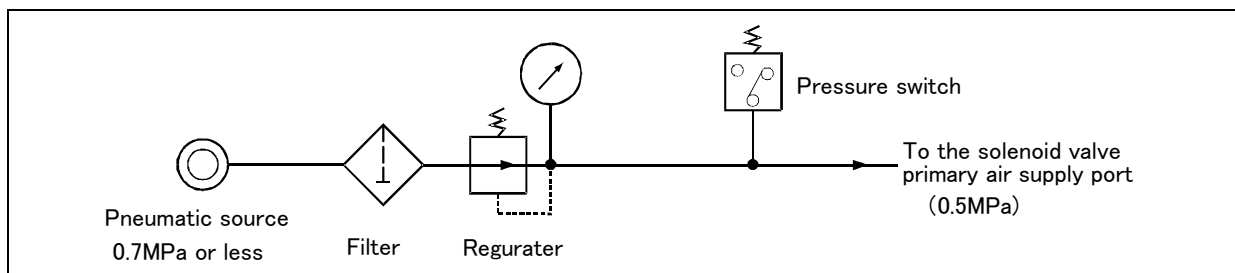

Fig.2-10 : Air supply circuit example for the hand
Refer to Fig. 2-10 for air supply circuit example.
Fig. 2-10 shows an example of pneumatic supply circuitry for the hand.
- (1) Place diodes parallel to the solenoid coil.
- (2) When the factory pneumatic pressure drops, as a result of the hand clamp strength weakening, there can be damage to the work. To prevent it, install a pressure switch to the source of the air as shown in Fig. 2-10 and use the circuit described so that the robot stops when pressure drops. Use a hand with a spring-pressure clamp, or a mechanical lock-type hand, that can be used in cases where the pressure switch becomes damaged.
- (3) The optional hand and solenoid valve are of an oilless type. If they are used, don't use any lubricator.
- (4) If the air supply temperature (primary piping) used for the tool etc. is lower than ambient air temperature, the dew condensation may occur on the coupling or the hose surface.